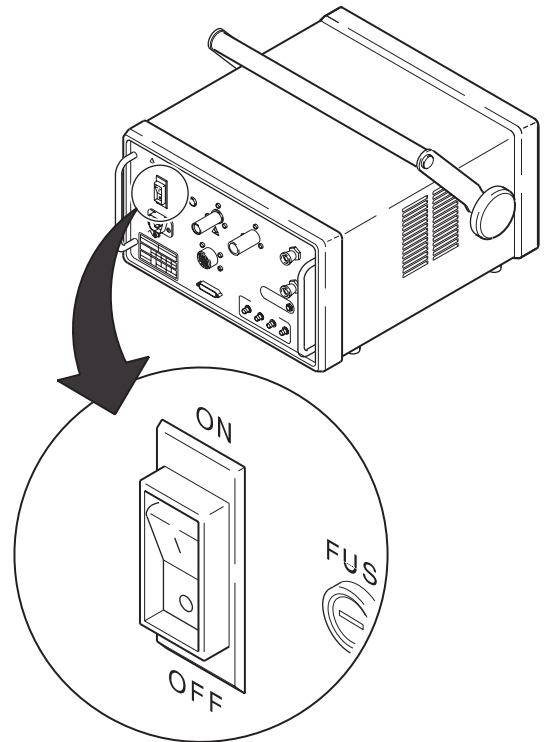

Figure 4 Turn Off Circuit Breaker
5. Turn off the power supply circuit breaker on the rear panel of the unit. See Figure 4.